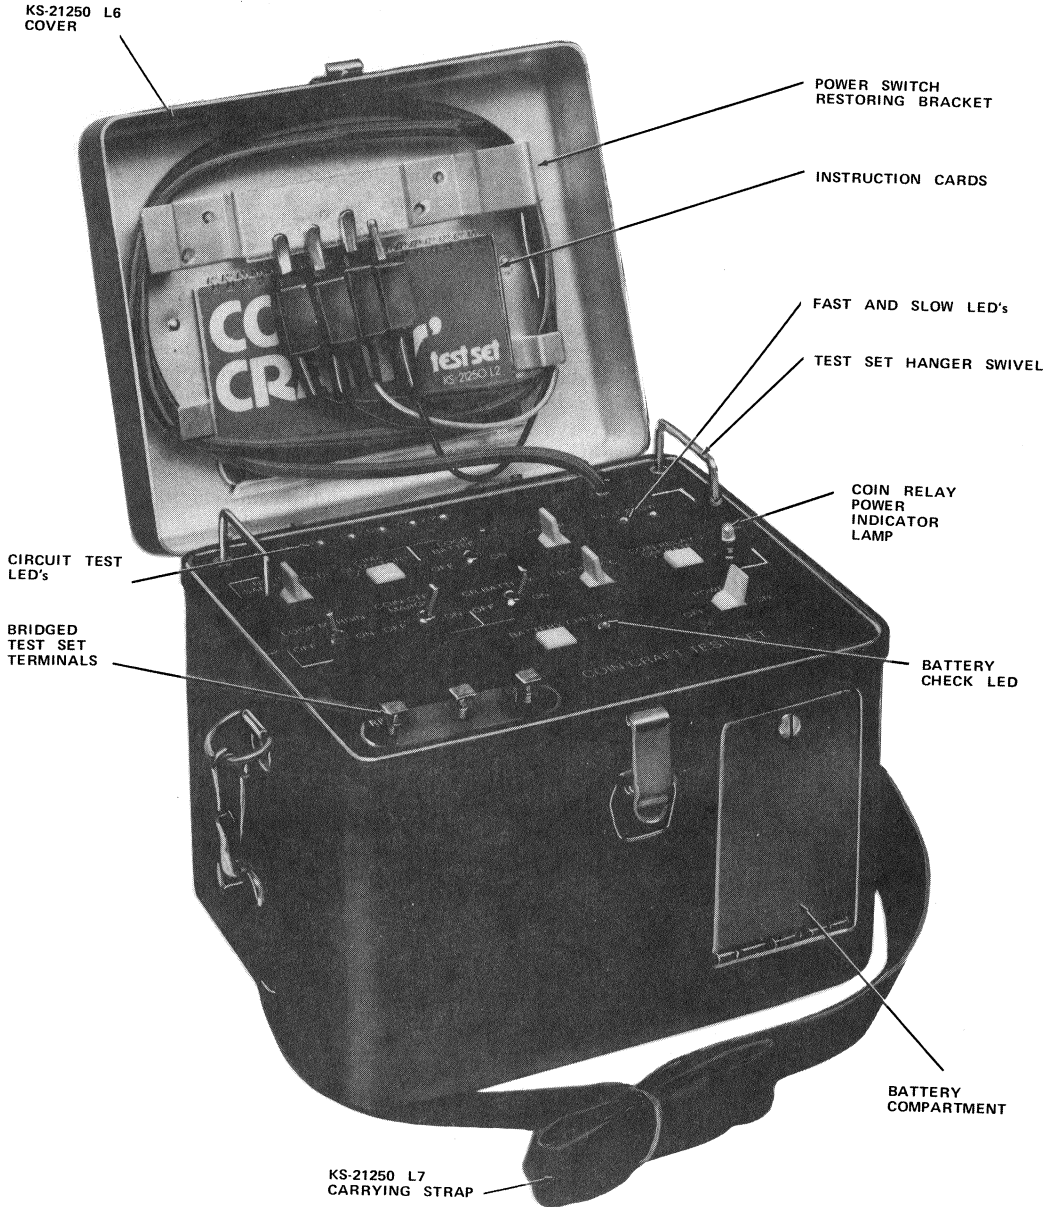

Fig. 1—KS-21250, L2 Coin Crafts' Test Set
**1.01** This section provides identification, operation, and maintenance for the KS-21250, L2 Coin Crafts' Test Set (Fig. 1).